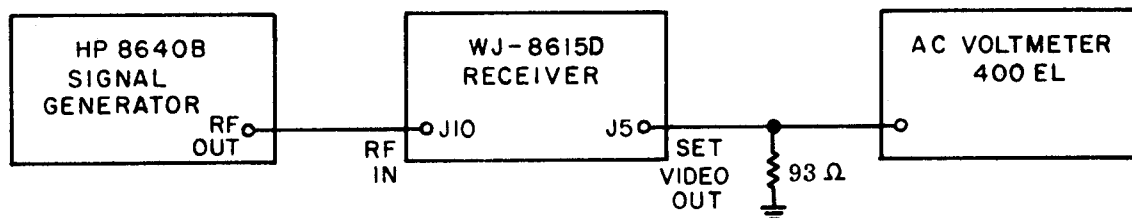

Figure 4-30. Audio/Video Alignment, Equipment Connections
- 3) Connect the test equipment as illustrated in **Figure 4-30** and adjust R8 for 400 mV rms at the Set Video (J5).